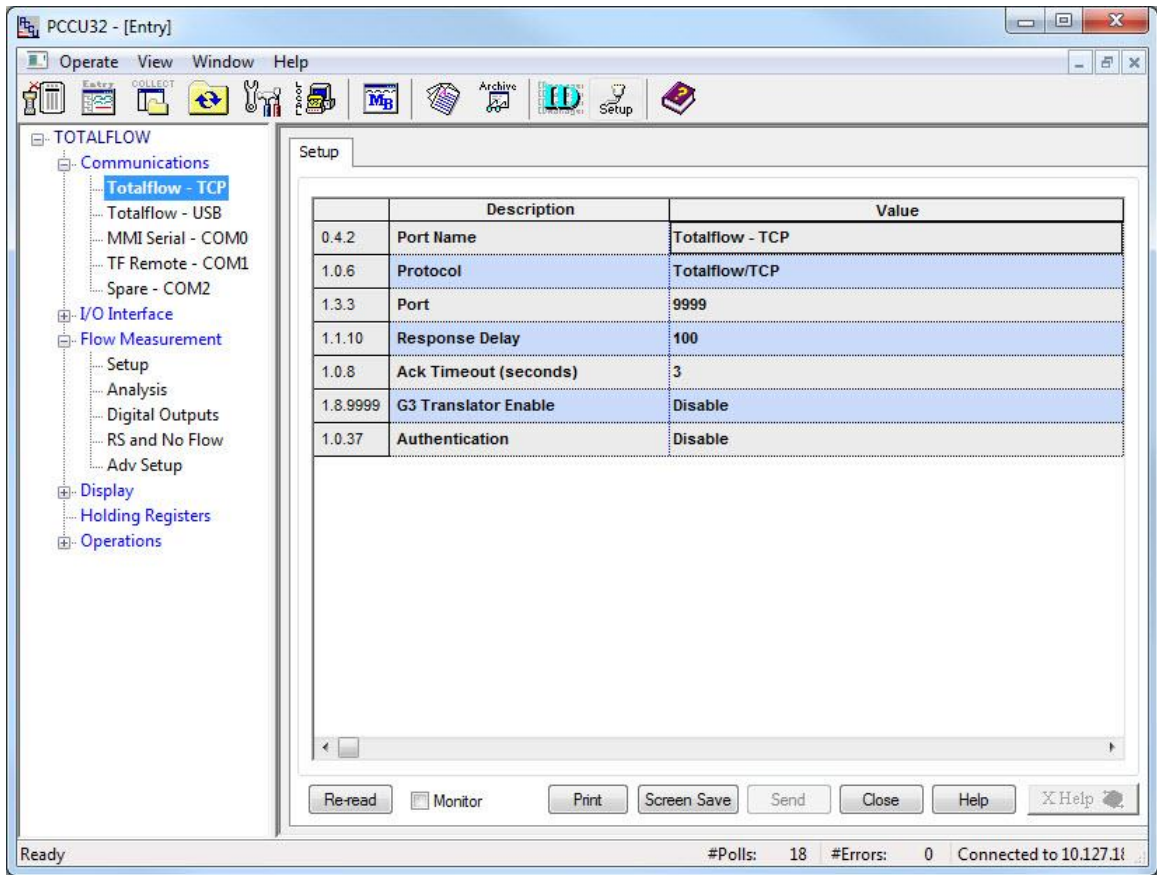

Figure 65 Communication Setup: Totalflow /TCP Protocol
8. On the navigation tree, select **Communications** > **Totalflow/TCP**>**Setup** tab to view or change additional port parameters (Figure 65). The default protocol enabled on the port is **Totalflow/TCP**.